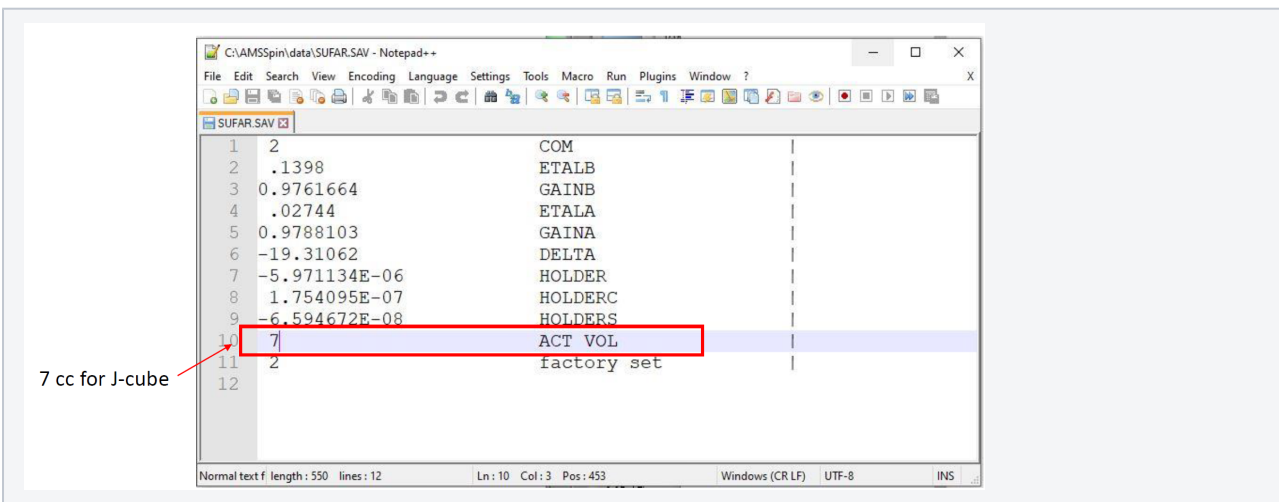

Figure 3. Changing volume in AMSSpin
- If the volume (in cc) displayed is not correct, close AMSSpin. Open the **SUFAR.SAV** file in *C:/AMSSpin/data* to change the volume in the line shown in Figure 3. Save the file after changing the volume and reopen AMSSpin.